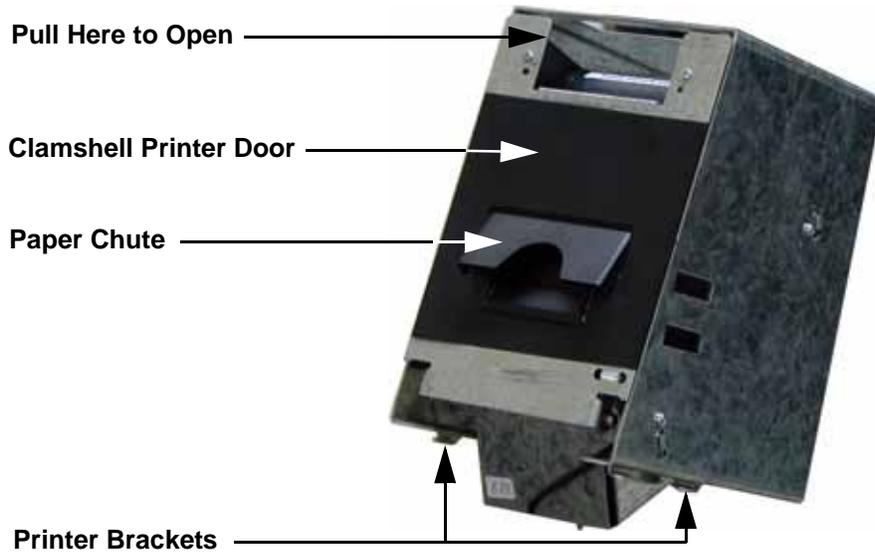
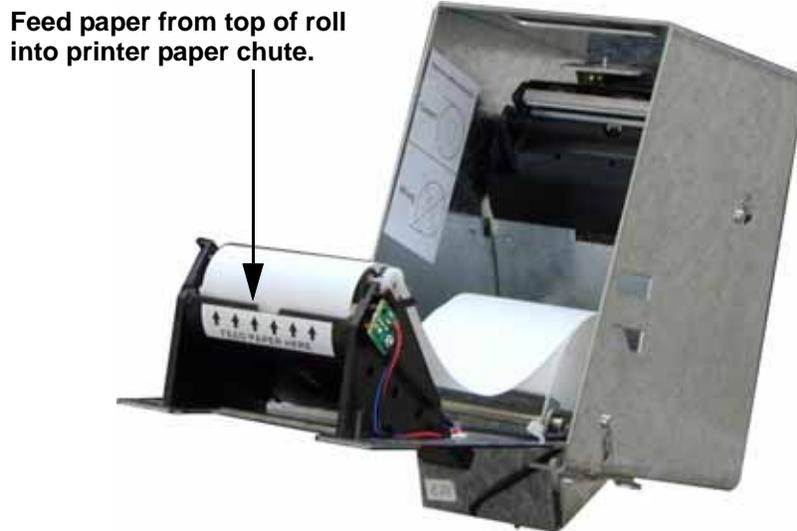

Figure 4-1 Clamshell Printer Door
Figure 4-2 Clamshell Printer Paper Add
2. Open the Clamshell printer door and drop the paper roll in with the paper leader feeding from the top of the roll. See Figure 4-1 and Figure 4-2.